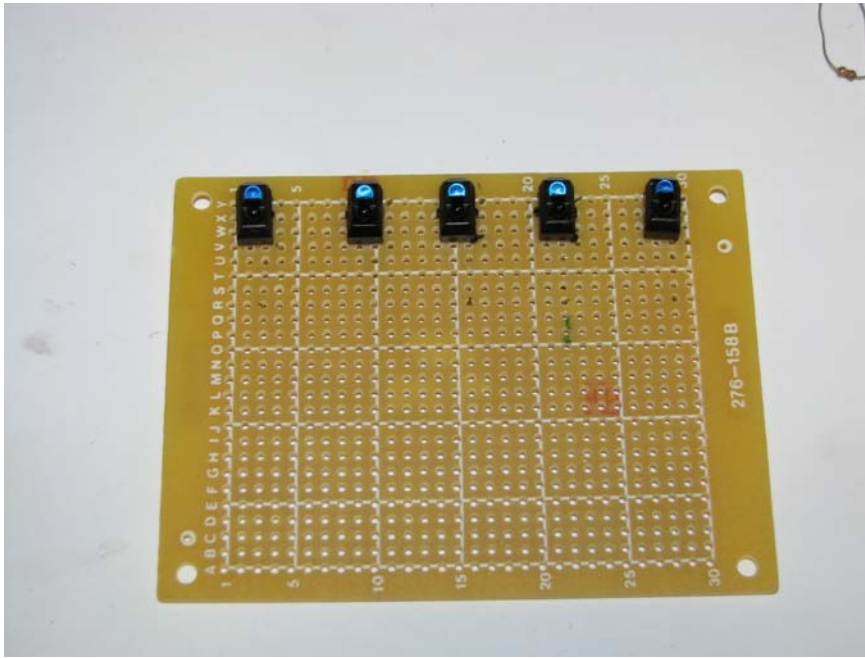

Figure 4-8. Placing the sensors
1. Place IR sensors on prototyping board. Each IR pair has two LEDs with four total leads. The top of the pair is the Emitter (the blue-colored LED), and the bottom is the Detector or photo-transistor (the black-colored LED). The *indented* end of the sensor package should be closest to the edge of the board, as shown in Figure 4-8.